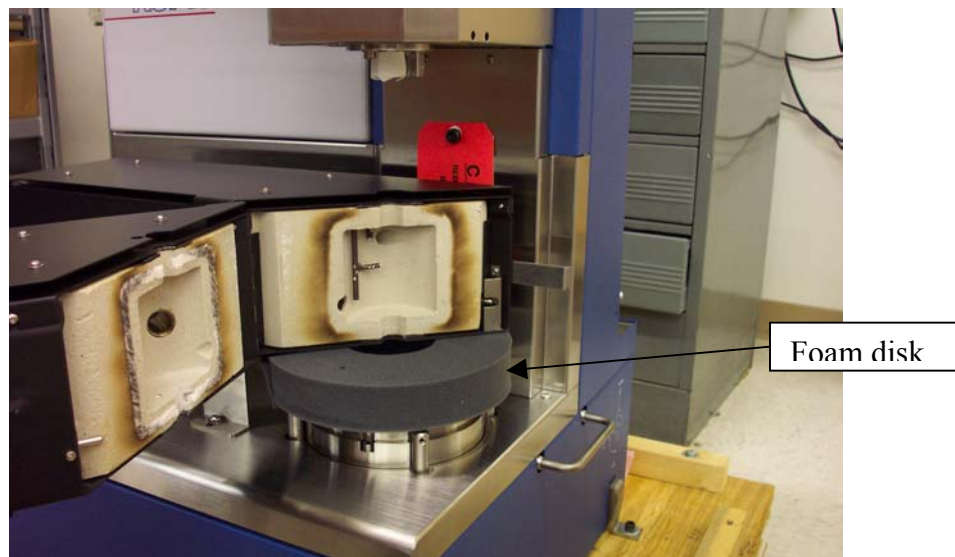

Figure 5
- 11.) Place foam disk on motor. The purpose is to sandwich the foam disk between the motor and oven (Figure 5).